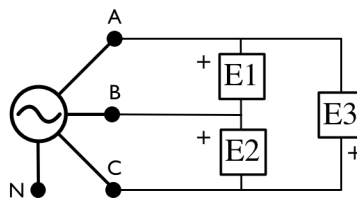

Figure 1.7: Line Voltage Measurement
37. With the power off, connect voltmeters E1, E2, and E3 to simultaneously measure the LINE voltages of the fixed voltage three-phase power supply, as shown in Figure 1.7.